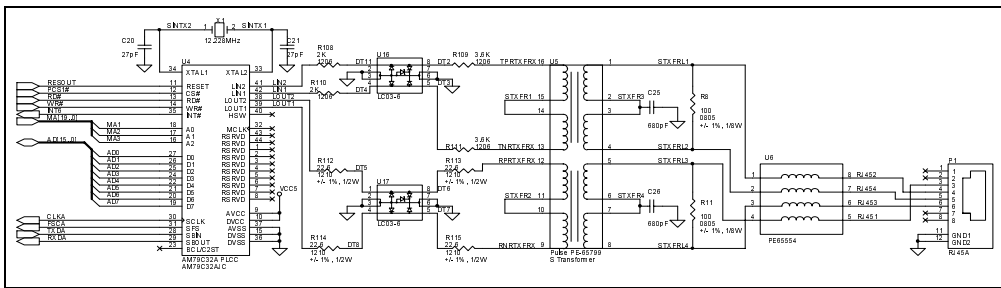

Figure 2-5. ISDN TA S/T Interface
The Am79C32A ISDN data controller (IDC) circuit is used to provide the four-wire 2B+D S/T interface. This device has a general circuit interface (GCI), also referred to as IOM-2, serial microprocessor interface, which is used to transfer B channel data to and from the Am186CC microcontroller's integrated HDLC controller. The Am186CC microcontroller-based ISDN TA reference design provides a full-duplex path between the terminal equipment (TE) and the network termination (NT) device. The controller processes the ISDN basic rate interface (BRI) bit stream, which consists of two 64-Kbit/s B channels and a single 16-Kbit/s D channel. The schematic for the S/T interface block is shown in Figure 2-5 and sheet 4 of the schematics included in your kit.